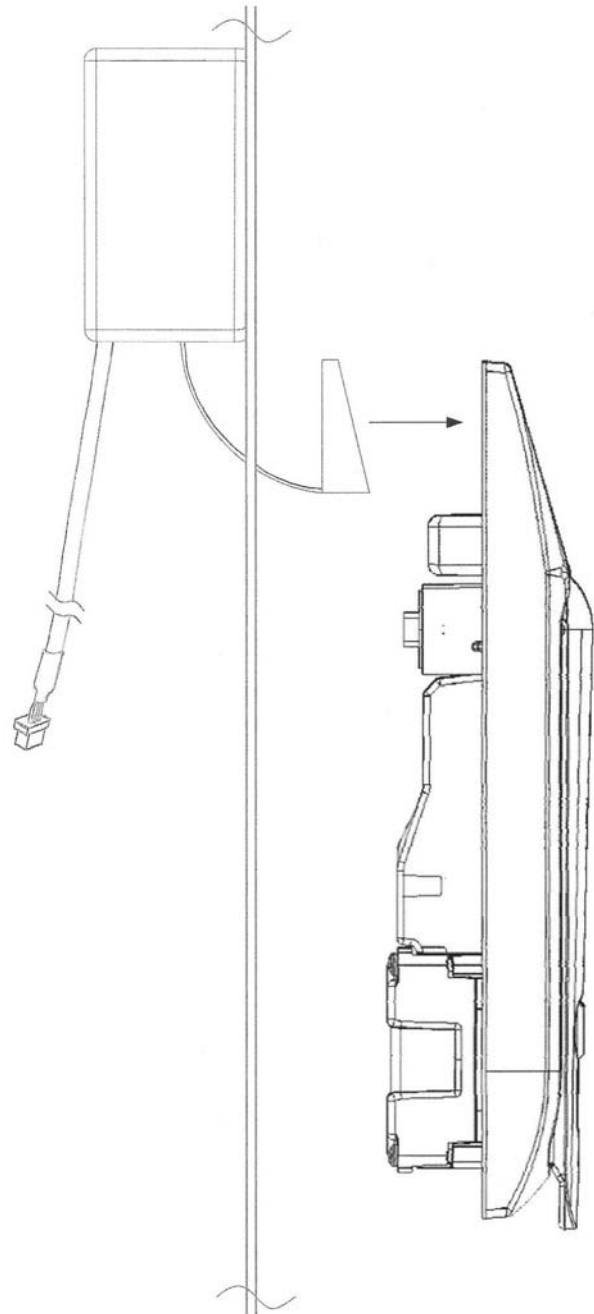

Figure 7
- Attach the finger-sensor assembly into the back of the door lock as show in Figure 7. Ensure that the angle of the finger-sensor assembly and the angle of the door lock are as shown in Figure 7.